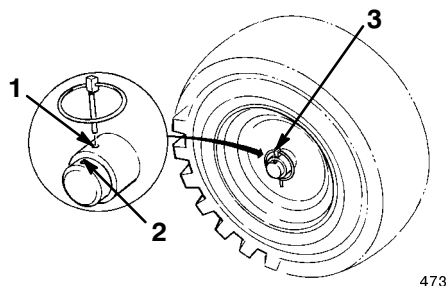

Figure 4
8. Slide the wheels inward and install the axle pin through the holes in the wheel hub and through the **inner** hole of the axle (Fig. 4).